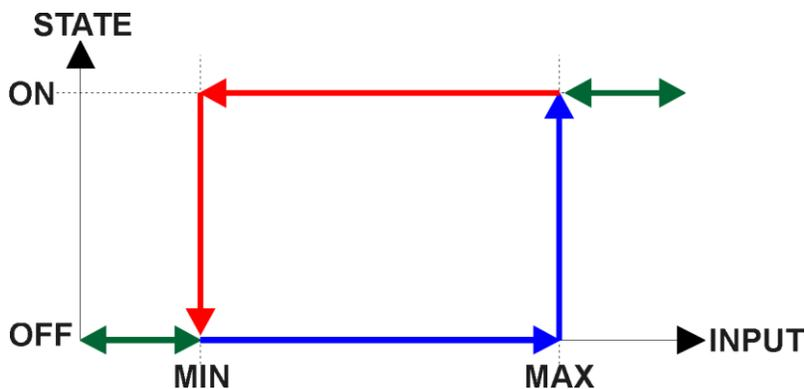

Figure 6 – Analog Input Read as Digital
There is another type of 'digital' input that can be selected when 6112h is set to 20 = Analog On/Off. However, in this case, the input is still configured as an analog input, and therefore the objects from the Analog Input (AI) block are applied instead of those discussed above. Here, objects 2020h, and 2030h are ignored, and 6000h is written as per the logic shown in **Figure 6**. In this case, the MIN parameter is set by object 7120h **AI Scaling 1 FV**, and the MAX is set by 7122h **AI Scaling 2 FV**.